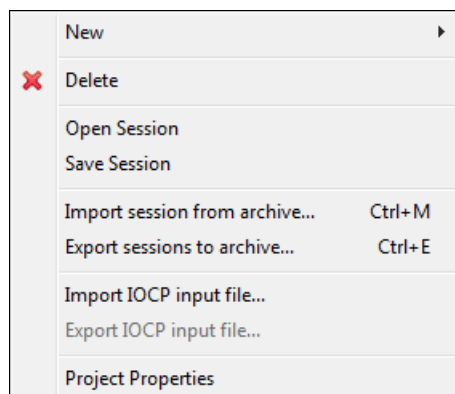

Figure 8-57 CMT - Importing the IOCP file
1. Right-click in the Projects pane and select **Import IOCP input file** (Figure 8-57).